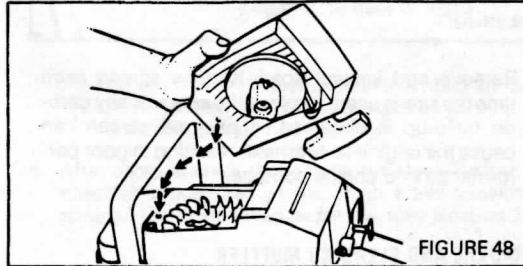

FIGURE 48
4. When re-installing the starter cover, pull the starter rope slowly so the starter can engage the flywheel properly, and be certain the guide post is positioned in the locating hole in the fan housing. (Figure 48).